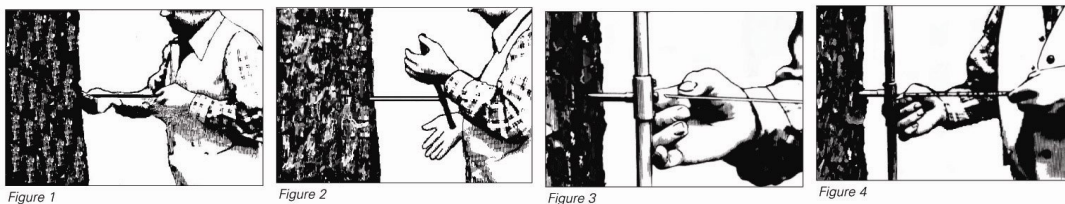

Figure 4. Different steps in coring a tree.
3. The greatest difficulty is to get the corer started into the tree. To begin coring, hold the bit just behind the threads and lean into the borer to provide as much body pressure as possible (figure 4). Slowly turn the bit until the threads have become fully engaged. **NEVER** use brute
4. After the threads have engaged, you may step back from the increment borer and turn the handle (figure 4). The bit will proceed into the tree. Hardwoods will require a considerable use of strength and energy. If you hit a rot pocket (you will know immediately because of the ease of turning), back out immediately or else your bit may be incredibly difficult to remove (the threads do not engage in reverse unless they already have a bite in the wood). You should try to core the tree slightly past the pith (center) of the stem. To gauge your depth at any given time, you can hold the extractor up to the side of the tree (it is the same length as the bit and will inform you of your progress).